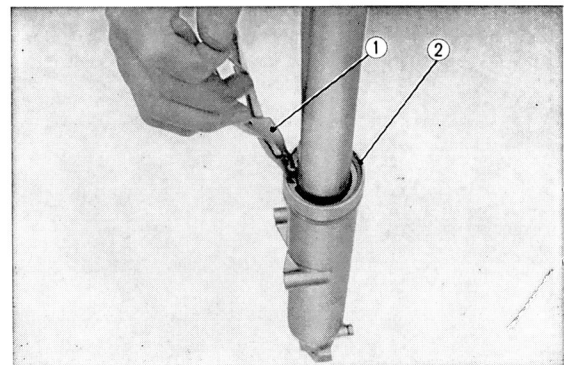

Fig. 4.19 Removing the 47mm circlip
5. Remove the front boot (CB 450 : front fork under cover), front cushion spring and then remove the 47mm internal circlip using the snap ring plier. Pull out and disassemble the front fork bottom pipe and the front fork pipe assembly. (Fig. 4.19)